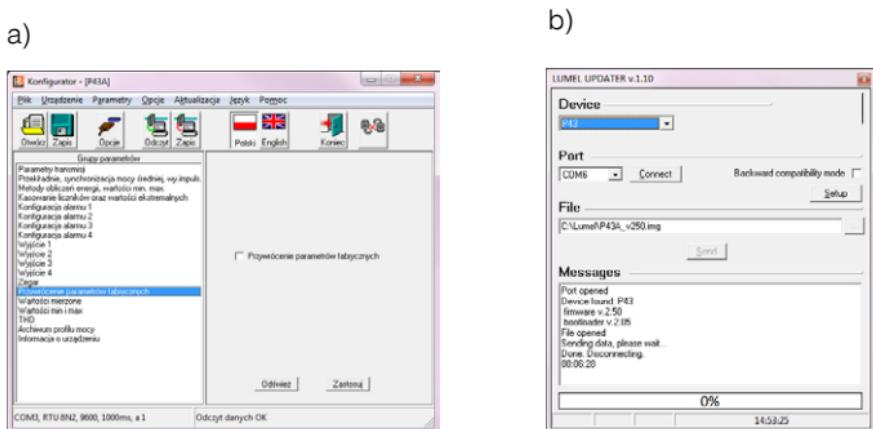

Fig. 20. The view of program window: a) LPCon, b) program updating
After LPCon has been started, one ought to set serial port, baut rate, mode and the transducer address in Options. Then choose the P43 transducer from the menu Devices and click the icon Read in order to read all set parameters (necessary for their later restoration). After selecting from the menu Updating the option Device software updating, the Lumel Updater (LU) window opens – Fig. 20 b. Press Connect. The information window Messages contains information on the updating process. At the correctly opened port, the message Port opened displays.